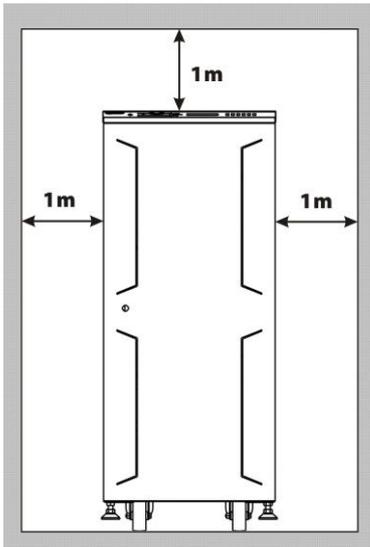

Fig..19. Front view UPS location
- In the Instructions of Security is indicated that it is necessary to leave a minimum of 25 cm in the contour of the equipment for your ventilation. Nevertheless, one recommends to leave other 75 cm. additional to facilitate the operations of maintenance of the equipment or interventions of the technical service in case of breakdown (see figures 19 and 20).
- Open the frontal door (PF) of the cabinet and proceed as follows